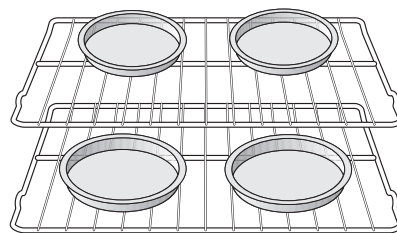

Figure 8: Baking on multiple levels
- For best results when baking cakes or cookies using two oven racks, place pans as shown in Figure 8.